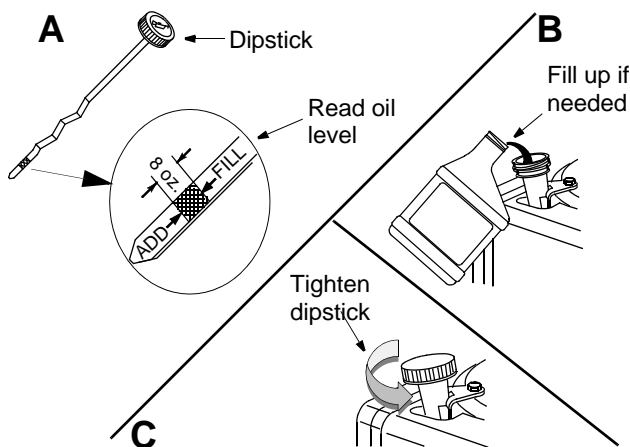

Figure 7
- With engine on level ground, oil must be to FULL mark on dipstick. See Figure 7.